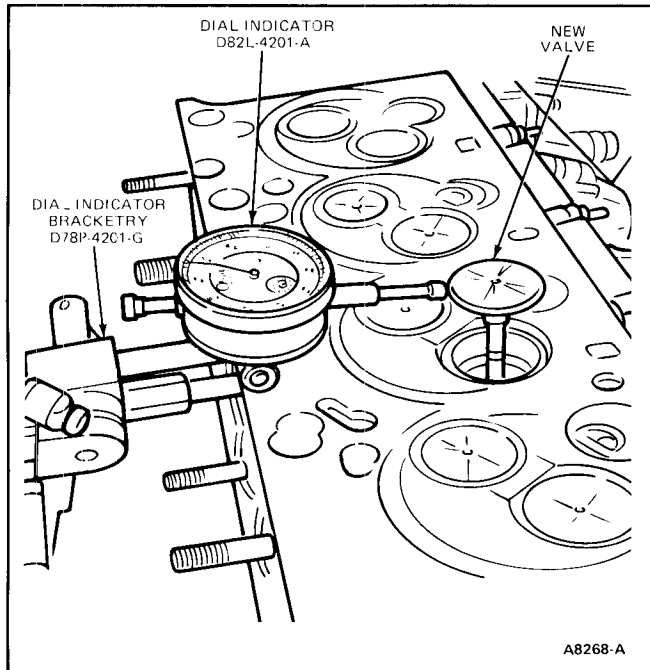

FIG. 67 Valve Guide Wear Check
1. Install Dial Indicator Bracketry D78P-4201-G and Dial Indicator D82L-4201-A or equivalent, as shown in Fig. 67.